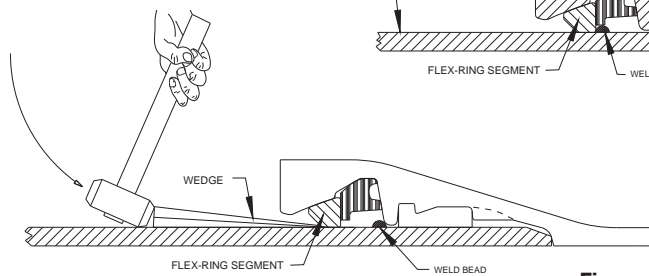

Figure 4
- 2. Hammer a starter wedge under a yellow locking segment until an approximately 1/8" gap is seen between the segment and the spigot. (Fig. 4)**